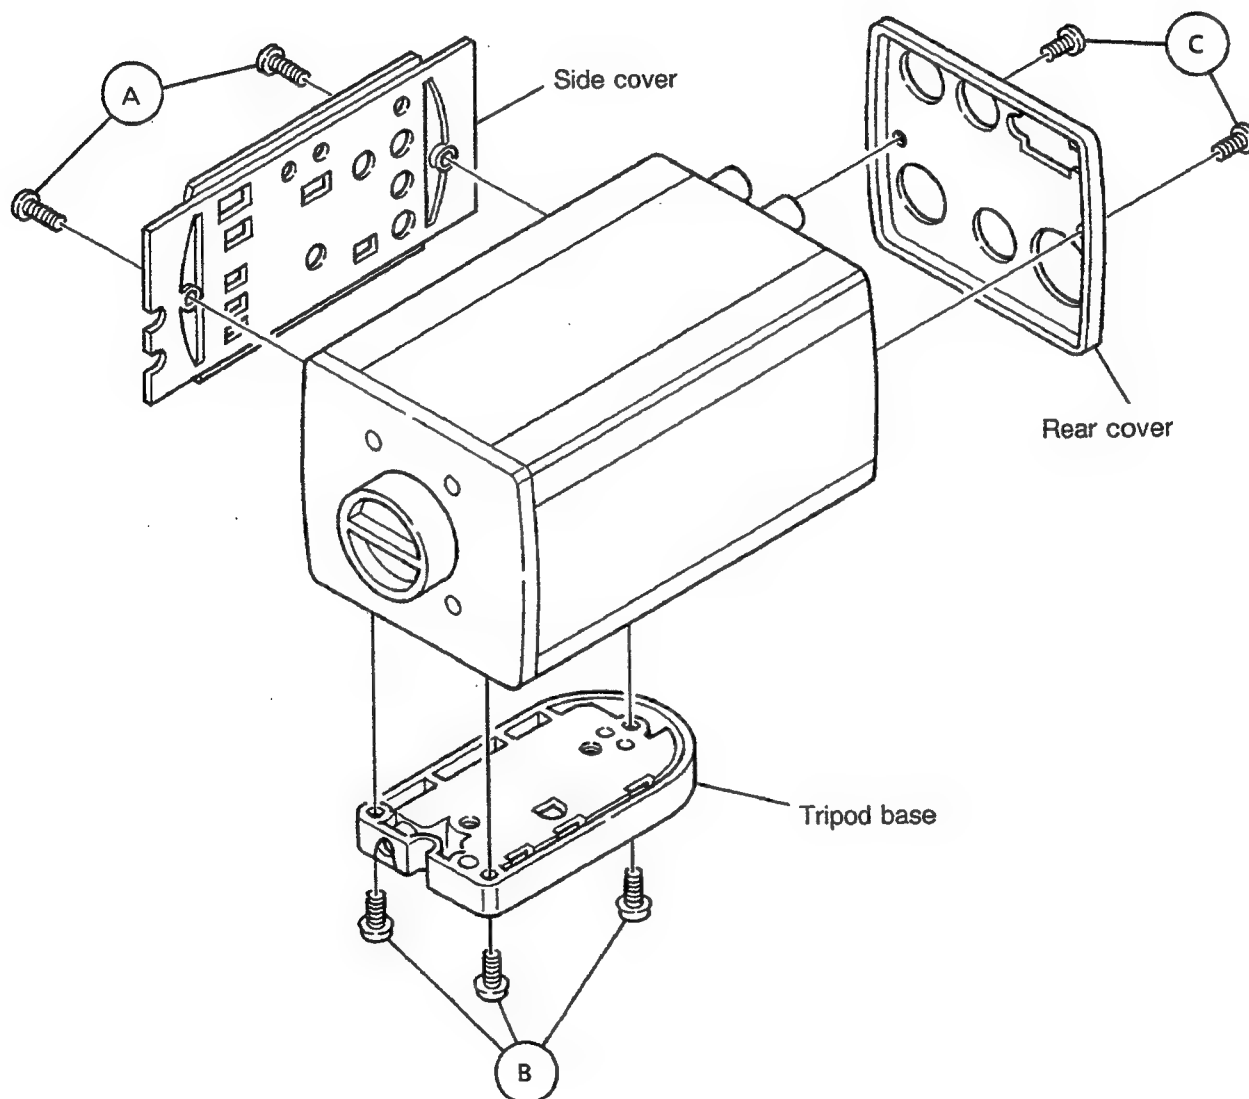

Fig. 1
- (1) Remove the two screws of ㉔ shown in Fig. 1.
- (1) Remove the three screws of ㉔ shown in Fig. 1.